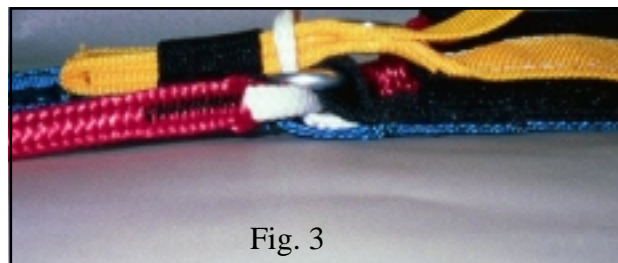

Fig. 3
**Step Three:** Thread the toggle tip through the brake set loop and into the elastic keeper as shown in fig. 3. Gently tug on the steering line to set the junction. This will help minimize wear on the steering line.